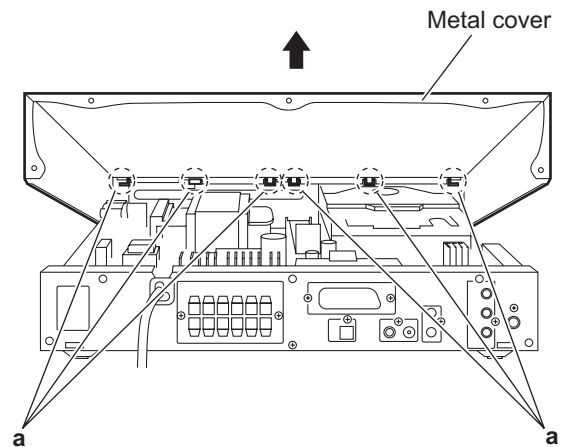

Fig.4
- (3) Lift the rear section of the metal cover in the direction of the arrow while extending the lower sections of the metal cover, release the claws **a** using a longer screwdriver from the inside as required. (See Fig.4.)
Do not damage any parts and boards inside the main body when releasing the joints **a** using the longer screwdriver. (See Fig.4.)